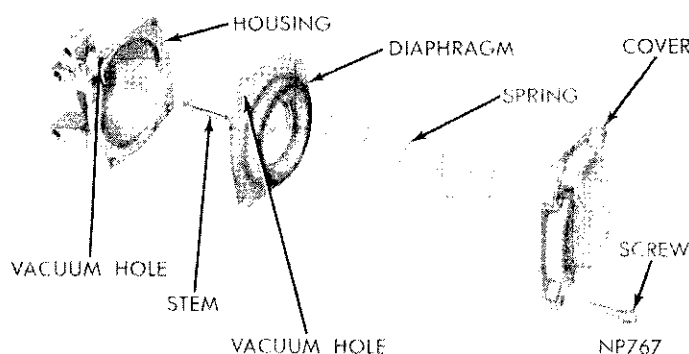

Fig. 15—Secondary Throttle Diaphragm (Exploded View)
- (1) Slide diaphragm into housing (Fig. 15).
- (2) Position diaphragm so that the vacuum hole in housing is aligned with vacuum hole in diaphragm.
- (3) Install diaphragm return spring with coiled end snapped over button in cover.
- (4) Support diaphragm stem in order to keep diaphragm flat as spring and cover are installed.
- (5) Align vacuum port in cover with port in housing